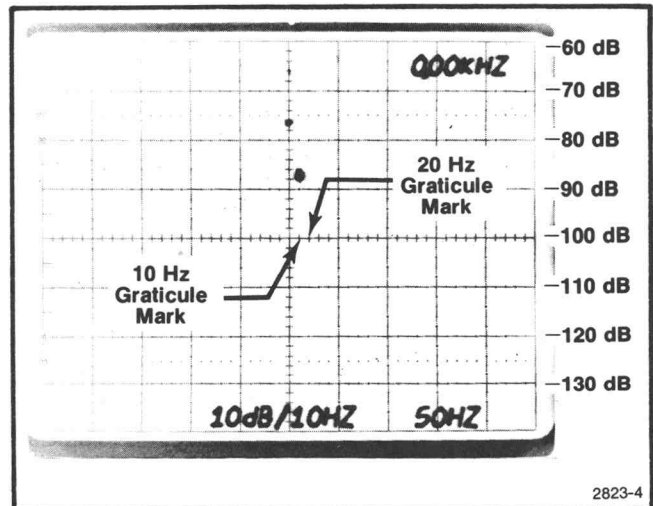

Fig. 4-3. 10 Hz null adjustment.
e. Set the spectrum analyzer A & B to off and manual sweep. Adjust the spectrum analyzer manual sweep control to position the dot in line with the 10 Hz graticule mark (peak amplitude on the spectrum analyzer trace). See Fig. 4-3. Adjust the spectrum analyzer reference level control to position the dot vertically on the top graticule line. This line is the –60 dB reference level.
position the dot vertically to the most stable point below the -80 dB level on the display. (see Fig. 4-3). Set the spectrum analyzer A & B to the on position and normal sweep mode.
k. Repeat step 9 parts e through h using the 20 Hz graticule mark on the display for step 9 part e (see Fig. 4-3).